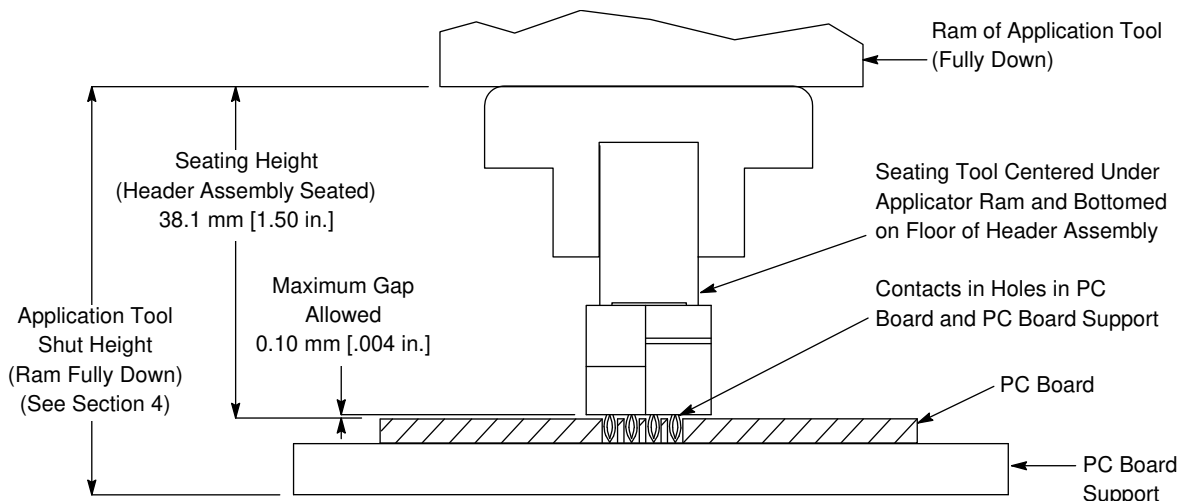

Figure 2
Set the seating height to the dimension shown in Figure 2 (application tool shut height will equal the seating height PLUS the combined thicknesses of the pc board and support fixture). After seating, a gap of no more than 0.10 mm [.004 in.] between the header assembly standoffs and the pc board is allowed.
### 5. SEATING (See Figure 2)
- b. the header assembly is seated on the pc board with the seating height-measured from the top of the header assembly to the top of the pc board-given in Figure 2